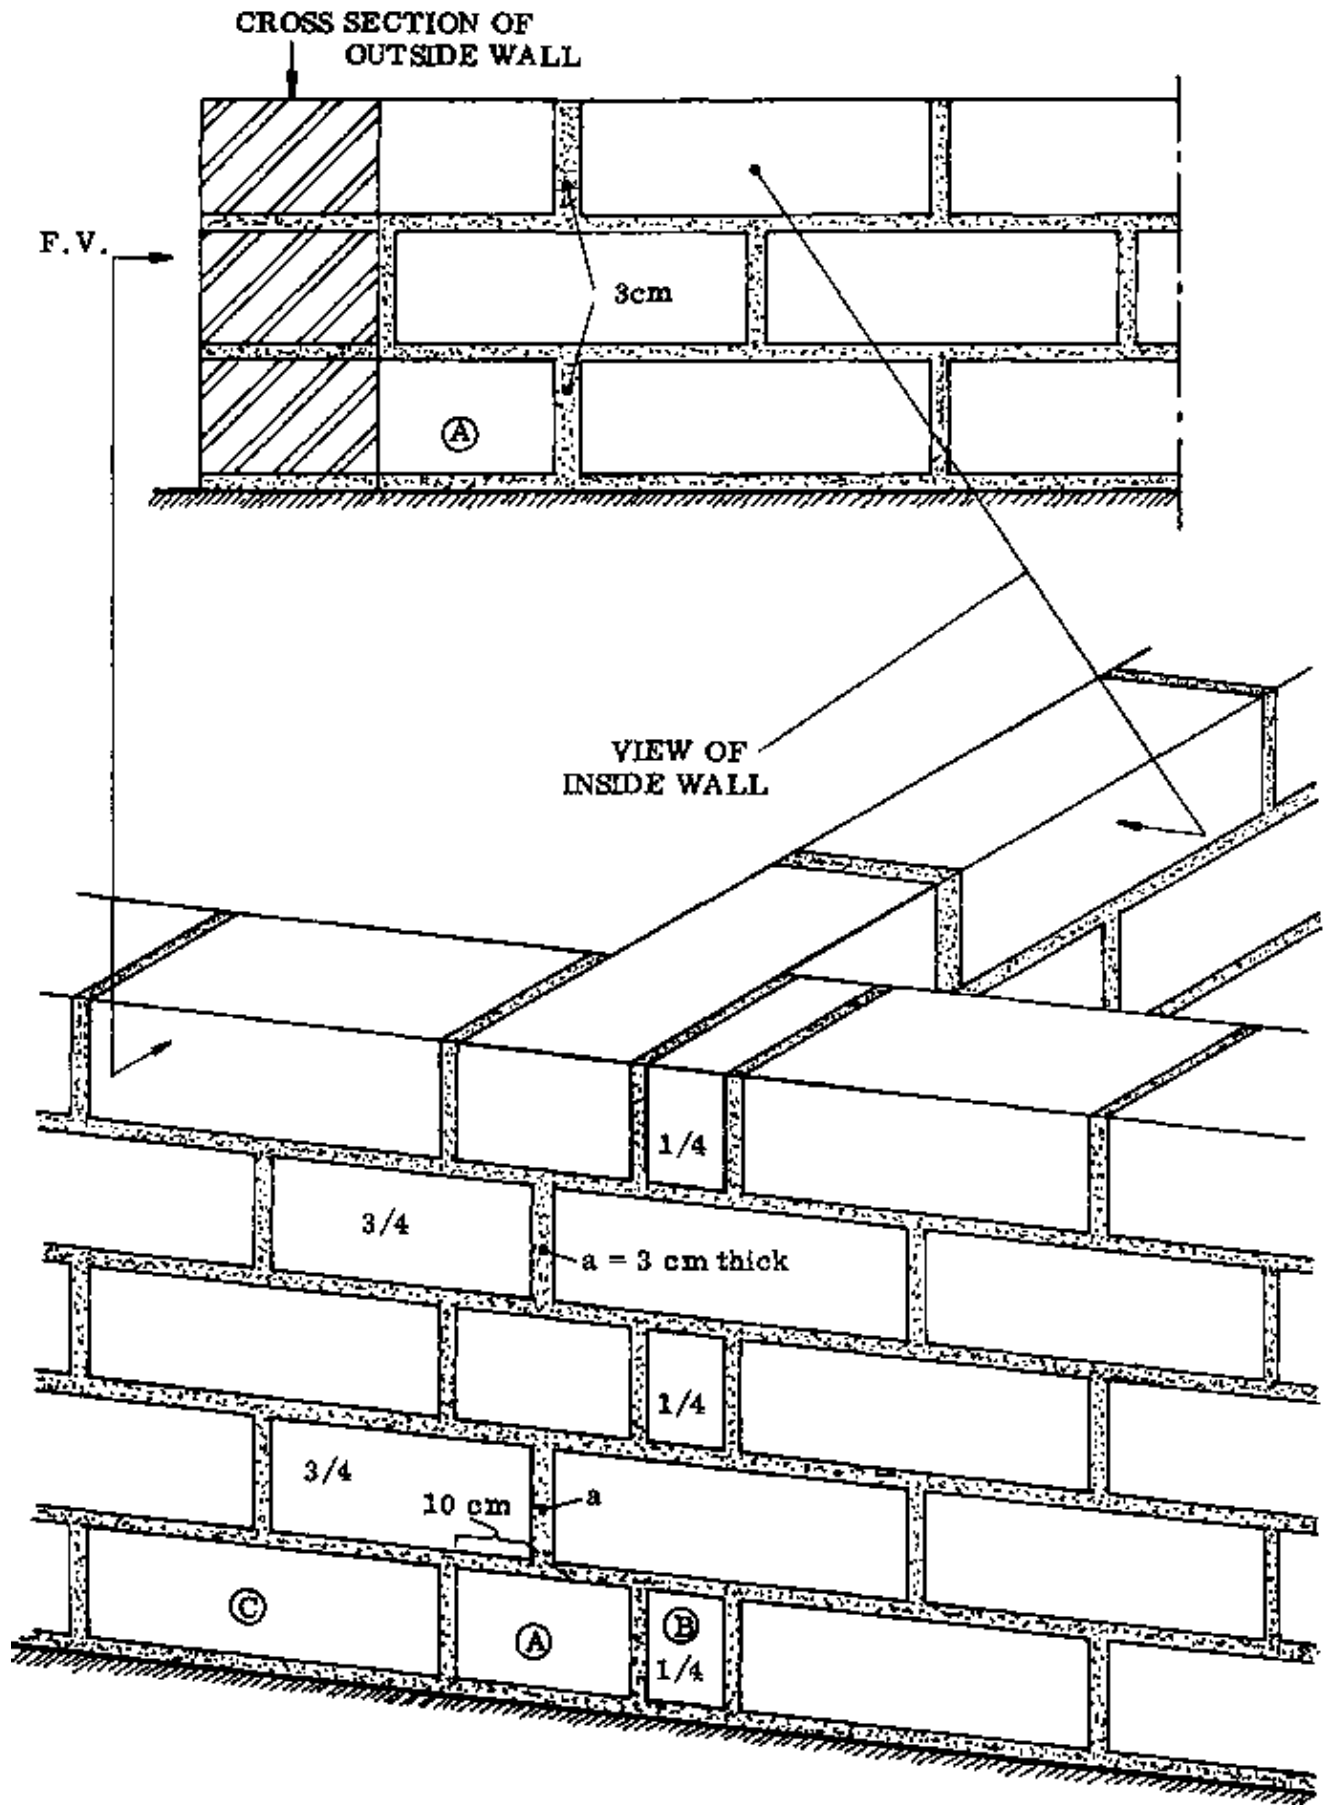
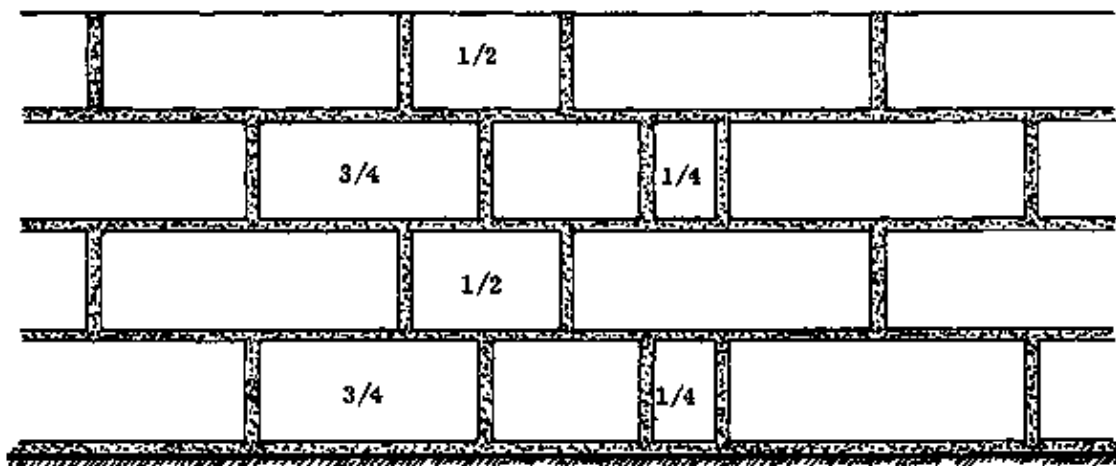

Fig. 1 & 2 COMBINED SECTION OF OUTSIDE WALL AND VIEW OF INSIDE WALL
Fig. 2 3rd CONSTRUCTION
The first block to be laid is the first block (A) of the inside wall: it will be seen as a header in the face of the outside wall (Figs. 1 & 2). This followed by a 1/4 block (B) at one side of it in the direction of the outside wall, and by a full block (C) on the other side (Fig. 2). This is followed by laying full blocks in all three directions.
courses: at the 1st, 3rd, 5th etc. courses (Figs. 1 & 2).
The cross joints between the headers of the inside wall (a) are 3 cm thick and must be exactly in line with the centre of the headers (Fig. 1). The cross joints directly following the blocks which are bonded to the outside wall are also 3 cm thick (Fig. 2). All the other joints are 2 cm thick.